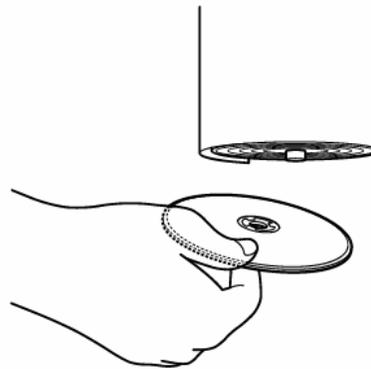

Fig.7
5. Remove the paper record for the take-up reel (See Fig. 7)